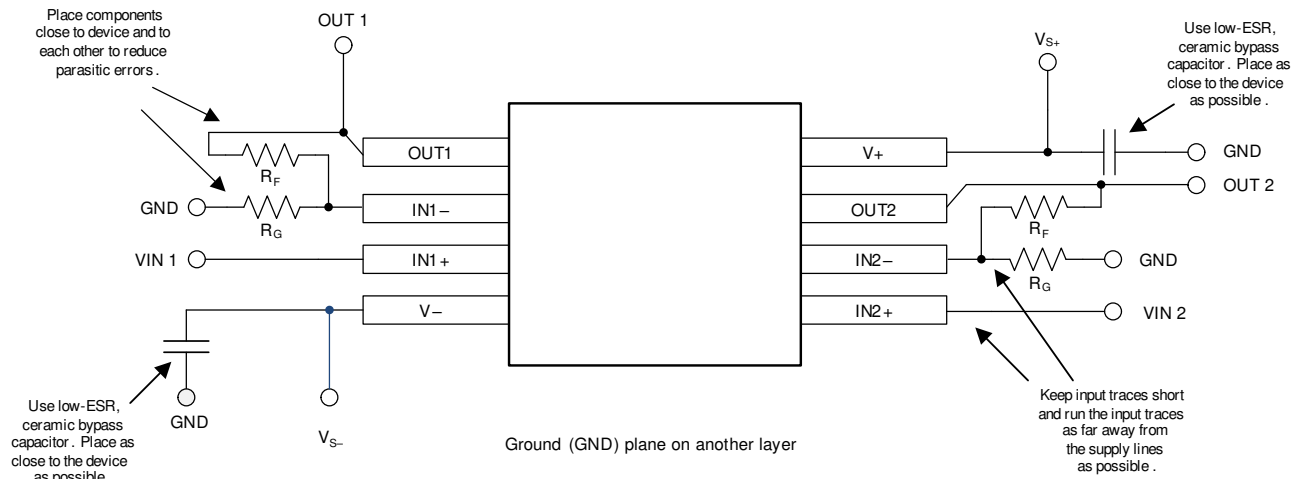

图 68. PCB Layout Example
- Use bypass capacitors to reduce the noise coupled from the power supply. Connect low ESR, ceramic, bypass capacitors between the power-supply pins (V+ and V–) and the ground plane. Place the bypass capacitors as close to the device as possible with the 100-nF capacitor closest to the device, as indicated in Figure 68. For single-supply applications, bypass capacitors on the V– pin are not required.
- Place the external components as close to the device as possible. As illustrated in Figure 68, keeping RF, CF, and RG close to the inverting input minimizes parasitic capacitance.